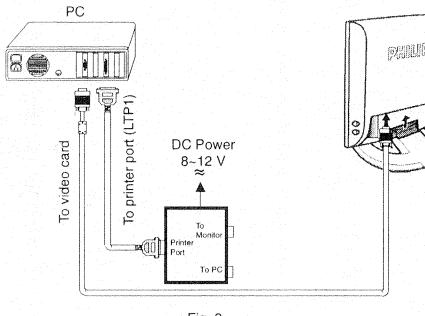

Fig. 3
- Step 2: Connecting printer cable and video cable of monitor as Fig. 3 Rear view of 150MT10P